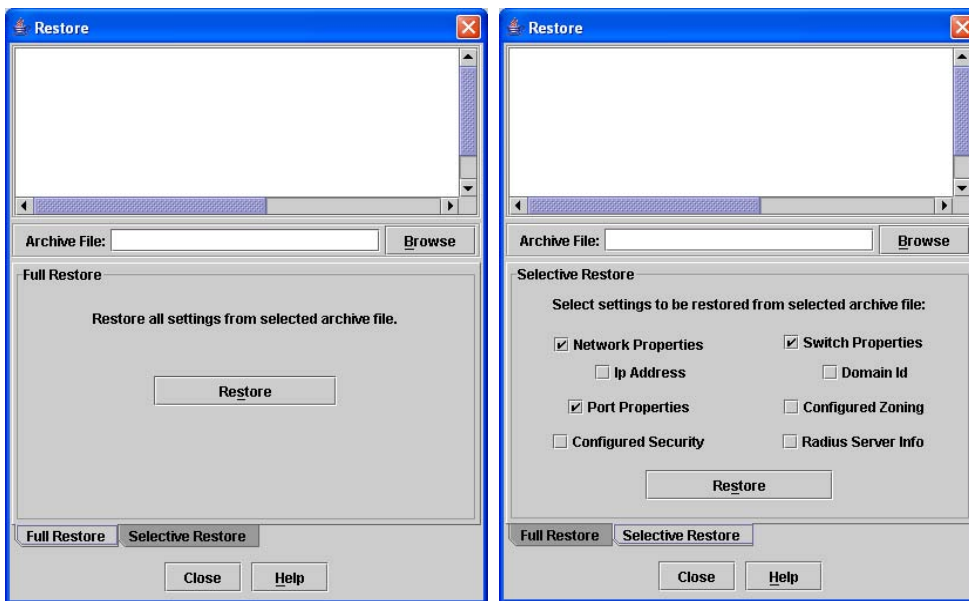

Figure 40 Restore dialogs – Full Restore and Selective Restore tab pages
2. Select **Switch > Restore** in the faceplate display to open the Restore dialog shown in Figure 40.